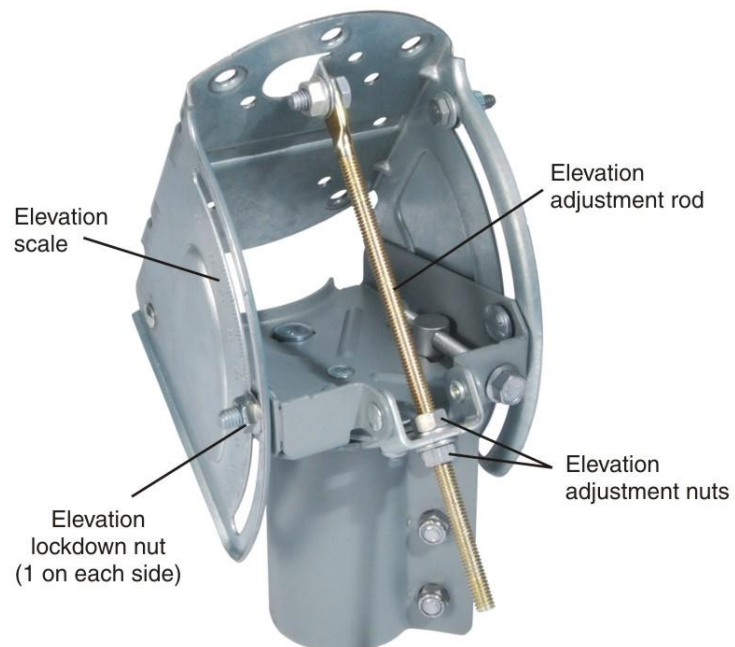

Figure 29: Elevation adjustment components
1. Loosen the elevation lockdown nuts on each side of the Az/EI mount. (See Figure 29.)